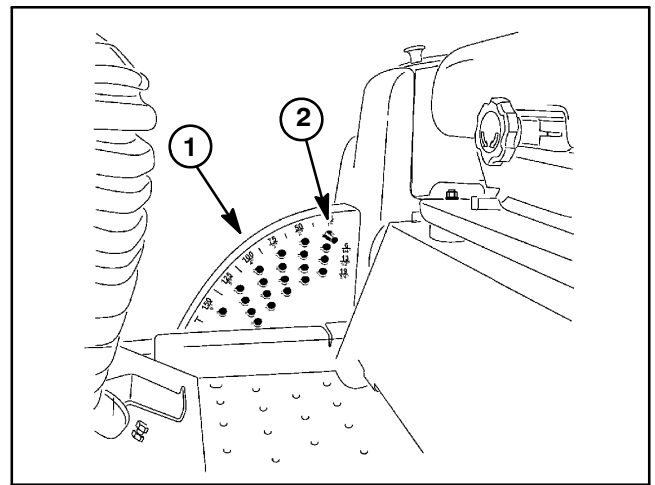
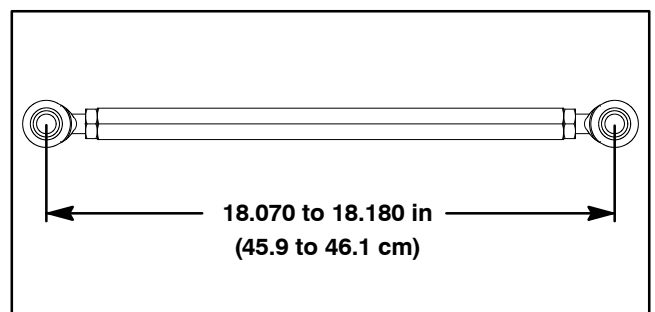

Figure 45
Figure 47
A. If ball joints were removed from link assembly (item 19), install ball joints equally on both ends of link. Adjust center to center length of link assembly from **18.070" to 18.180" (45.9 to 46.1 cm)** (Fig. 47). Tighten jam nuts to secure ball joints to link. Make sure that ball joints stay inline when tightening jam nuts.
**NOTE:** Flange nuts (item 12) should have flange surface against lift arm and not against chain. Correct assembly will allow chain to free to pivot.
B. If cap screw (item 13) was removed from HOC chain (item 3), insert screw into upper link of chain and thread flange nut (item 12) onto screw with flange away from link. Torque flange nut to **50 ft-lb (67 N-m)**. When fastening chain to front lift arm, torque second flange nut to **50 ft-lb (67 N-m)**. When installing chain to rear lift arm, torque cap screw to **50 ft-lb (67 N-m)**.
4. Start engine and fully raise cutting deck. Stop engine and remove key from the ignition switch. Install HOC pin into HOC bracket to allow desired height-of-cut (Fig. 45).